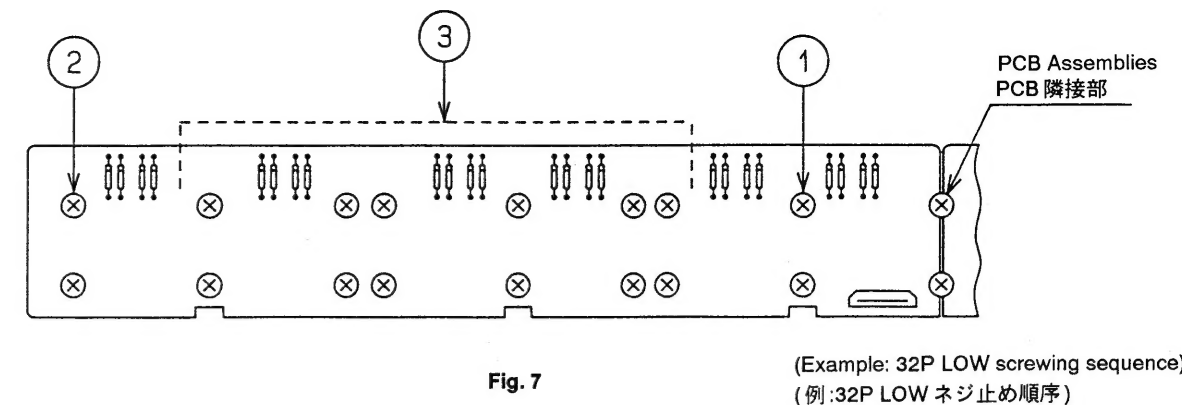

Fig. 7
4) Next, fasten both the PCB LOW and HI Assemblies with the Tap Tite Screws, starting as the keyboard center 1. At this time, the PCB Assemblies may be raised from the SPACERS by screwing. To avoid this, fasten the end 2 after screwing the center 1. (See Fig. 7)
ネジ止めによって、PCBがSPACERより浮きあがってしまうことがあるため、中央部1をネジ止めたのち端部2を先に締結します。(Fig.7参照)